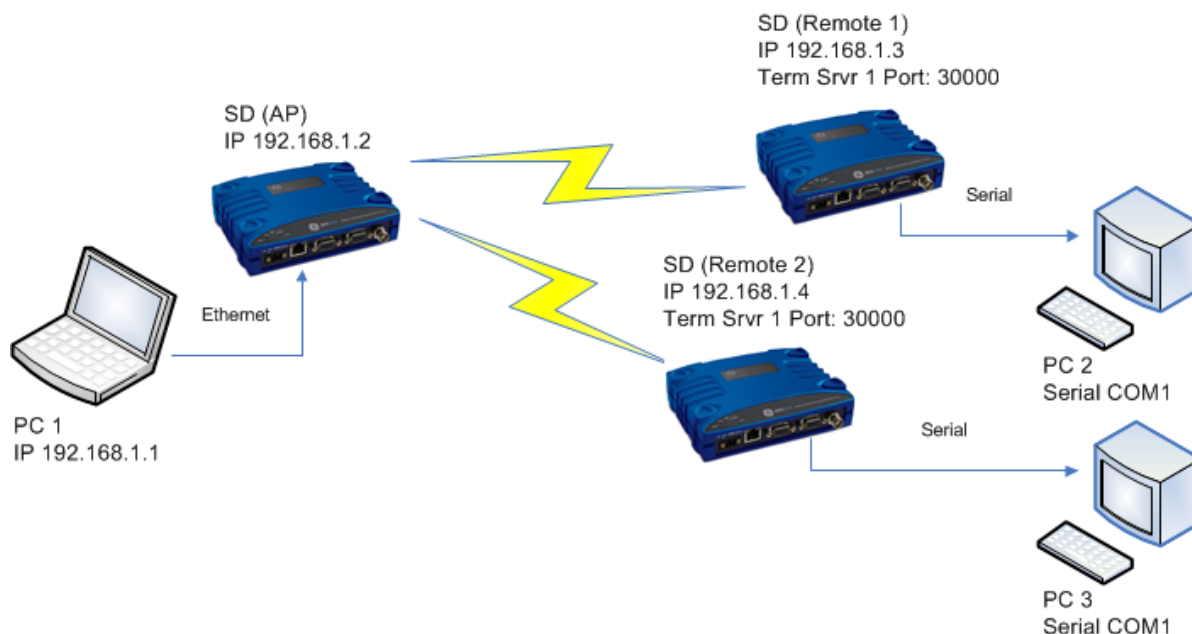

Figure 33. Terminal Server Example
The following describes a Terminal Server implementation in a radio network. Figure 33 below is referenced in this discussion.
- Radio (RF) link is good between AP and Remote 1, and AP and Remote 2.
- IP addresses are properly configured as shown in Figure 33.
1. Configure Remote 1 and Remote 2 by navigating to the **Term Svr 2 COM2 Configuration** screen and setting the parameters as listed below. (Note that an Ethernet connection to Remote 1 and Remote 2 — not shown in Figure 33— will be required for this step unless Serial is used.)